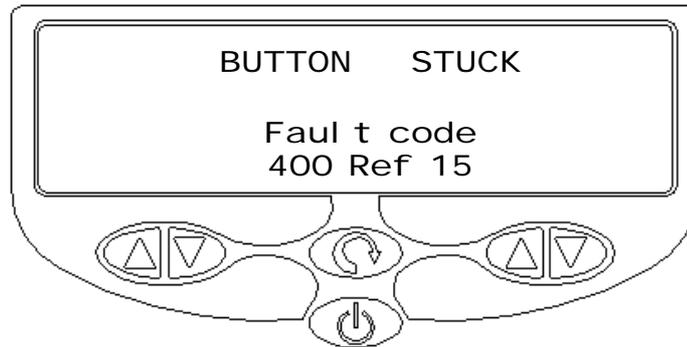

Fig 4.10 Screen for recoverable fault display
“OUTPUT SHORTED, RE-APPLY PEDAL” symbol (Fig 4.10 Screen for shorting of a non-grasping electrode), until the pedal is released and pressed again. Power levels will remain the same as those previously in use. This method of resolution is appropriate where the cause of the short is accidental, transitory and understood.
**Fault** - If a fault is detected during set-up or during use a fault code message is displayed as indicated by the "Fault Code XXX REF XX" symbol on the front panel display (Fig 4.10 Screen for recoverable fault display ). Refer to Section 9, Operating Room Troubleshooting.